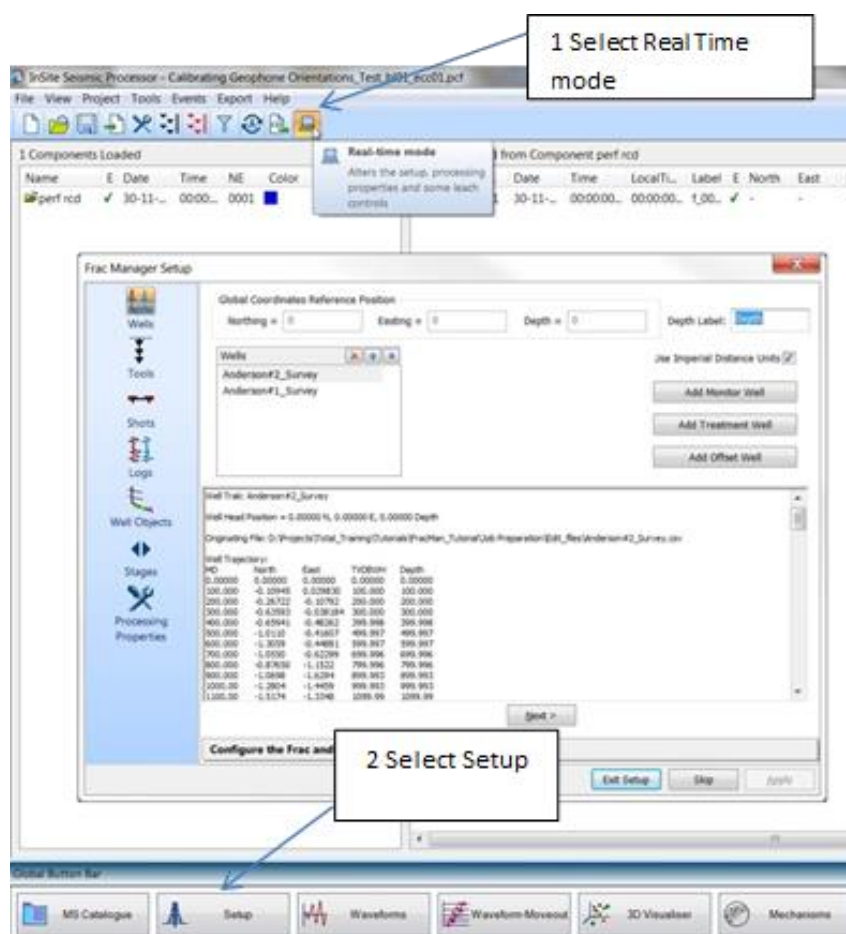

Figure 17-4: Launching frac manager wizard within an existing project
5. Activating real time mode and selecting the frac manager from the global button bar (Figure 17-4)